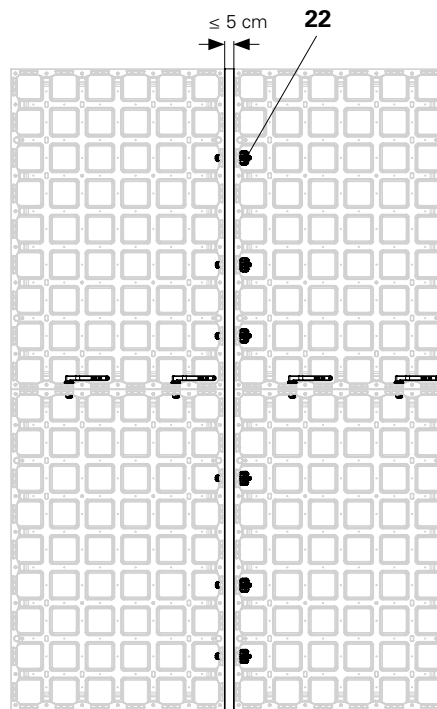
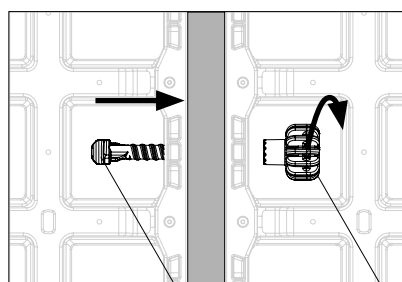

Fig. A3.06b
Fig. A3.06d
In combination with the DUO DW 15 grip (**22.2**), the DUO coupling tie (**22.1**) can be used for square timber compensations  $\leq 5$  cm. (Fig. A3.06b / Fig. A3.06d)
4. From the other side, screw on the DUO DW 15 grip (**22.2**) by hand. (Fig. A3.06d).